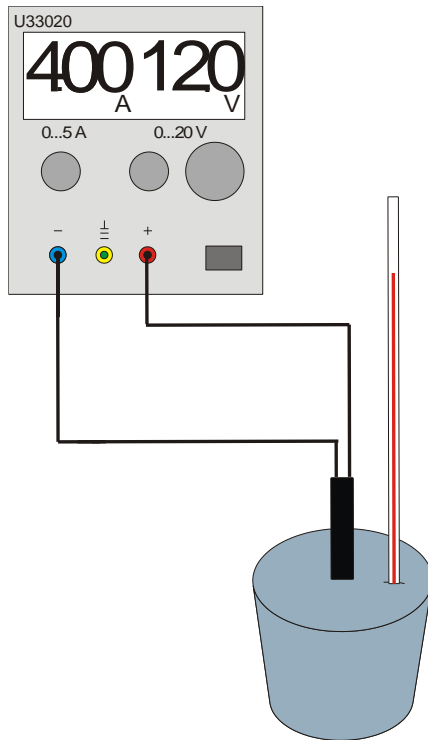

Fig. 1 Experimental set up
- Set up the circuitry according to Fig. 1.